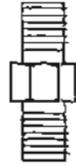

Figure 3-5. Nipple adapter.
(2) Complete the initial set up, self-test, and calibration in accordance with the procedures in chapter 2, section V.
(3) Disconnect the green oxygen high-pressure hose from the GAS IN port on the ventilator control module connector panel.
(4) Install the DISS male nipple adapter (fig 3-5) on the PRIMARY OUTLET of the blender.
(5) Attach the blender and DISS male nipple adapter to the GAS IN port on the ventilator control module connector panel.